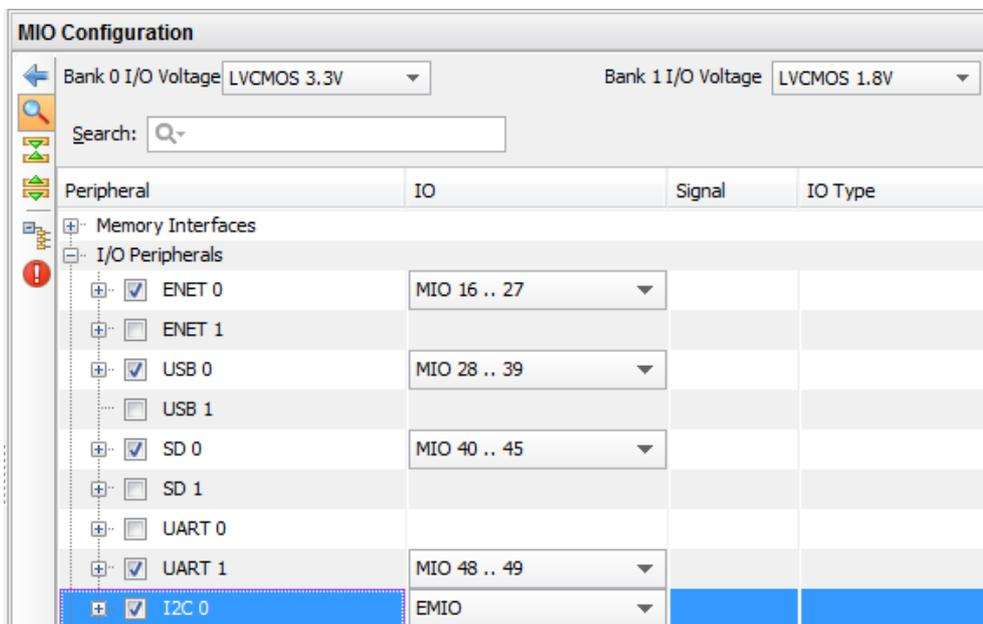

Figure 5.19: Configuring the I2C interface
- (e) Expand the **I/O Peripherals** and enable the **I2C 0** peripheral in the *MIO Configuration* panel. **EMIO** should automatically be selected for **IO**, as shown in Figure 5.19.